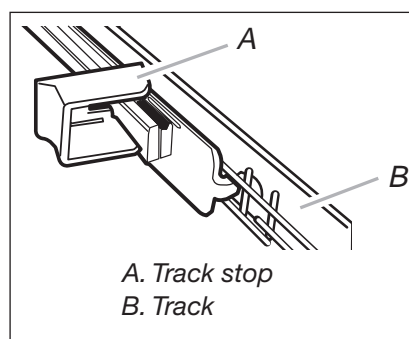

Figure 4
2. To open track stops, flip the track stop to the outside of the track, see figure 4